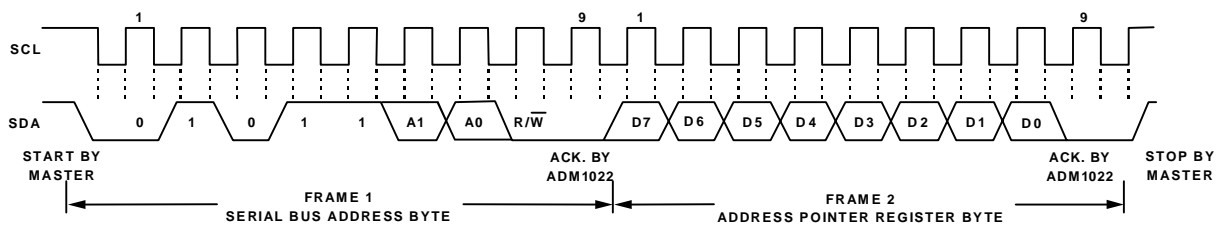

Figure 11b. Writing to the Address Pointer Register only
to set it to the correct value before data can be read from the desired data register. This is done by performing a write to the ADM1022 as before, but only the data byte containing the register address is sent, as data is not to be written to the register. This is shown in figure 11b.
2. If the Address Pointer Register is known to be already at the desired address, data can be read from the corresponding data register without first writing to the Address Pointer Register, so figure 11b can be omitted.